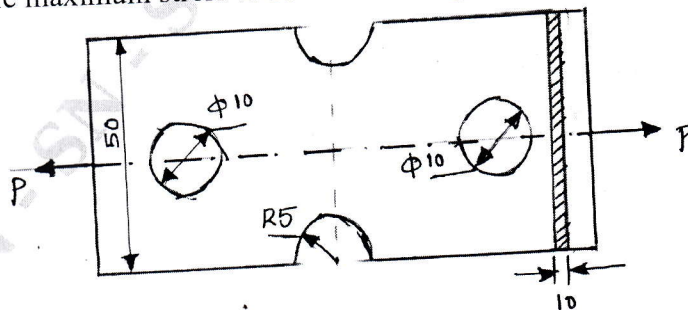

Fig.Q2(c)
- c. Determine the safe load that can be carried by a bar of rectangular cross-section shown in Fig.Q2(c), limiting the maximum stress to 130 MPa taking stress concentration into account.